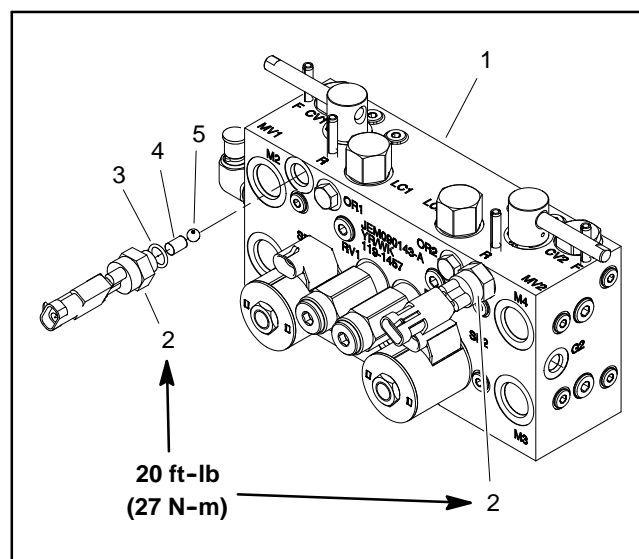

Figure 39
8. If backlap switch is faulty, replace switch (Fig. 39).